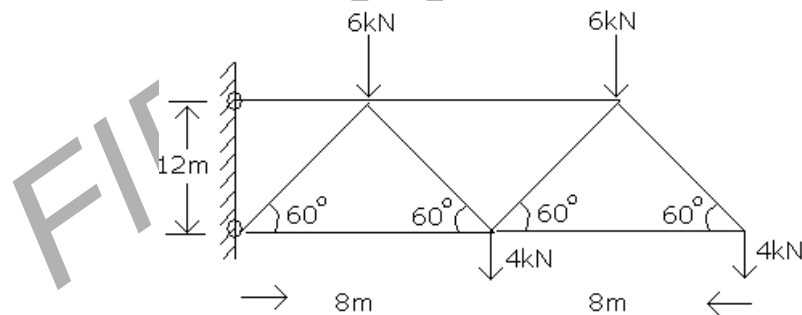

Figure 3
3. Find the forces in all the members of the warrentype Cantilever truss shown in Figure 3 by the method of sections. Tabulate the values. [16]